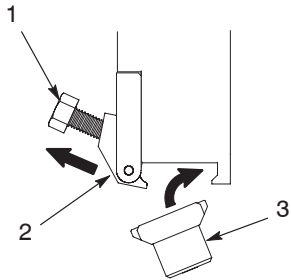

Figure 5 Removing/installing a CF adapter
- a. See Figure 5. Loosen the clamp screw that secures the adapter.